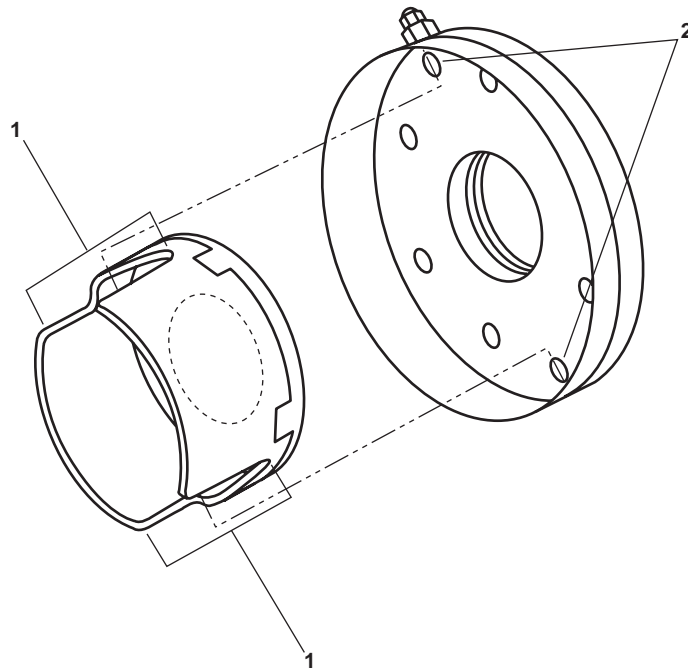

Figure 2. Hydraulic Disc Brake
6. Place the piston (figure 1, item 4) into the power plate assembly (figure 1, item 2), aligning the center of the cutout of the piston skirt (figure 2, item 1) with the torque pin holes in the power plate (figure 2, item 2).
17. Place the piston (figure 3, item 7) into the power plate assembly (figure 3, item 2), aligning the center of the cutout of the piston skirt (figure 2, item 1) with the torque-pin holes in the power plate assembly (figure 2, item 2).